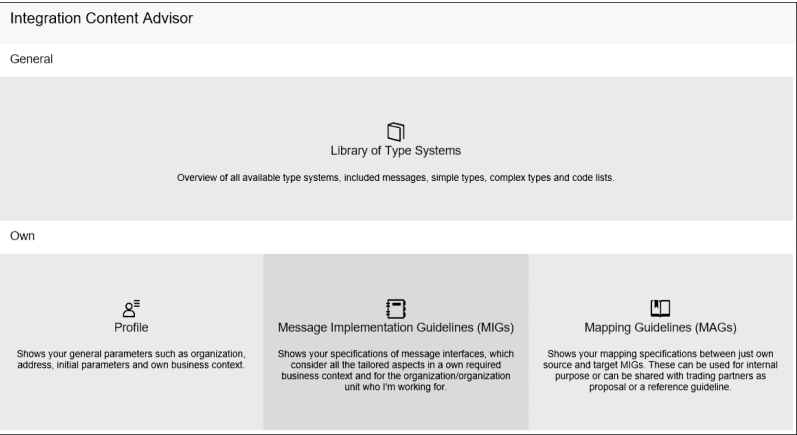

Figure 7.2 ICA Entry Page
1. Launch the ICA application from the URL provided in the SAP Cloud Platform cockpit. The ICA entry page opens. As depicted in Figure 7.2, it's divided into different